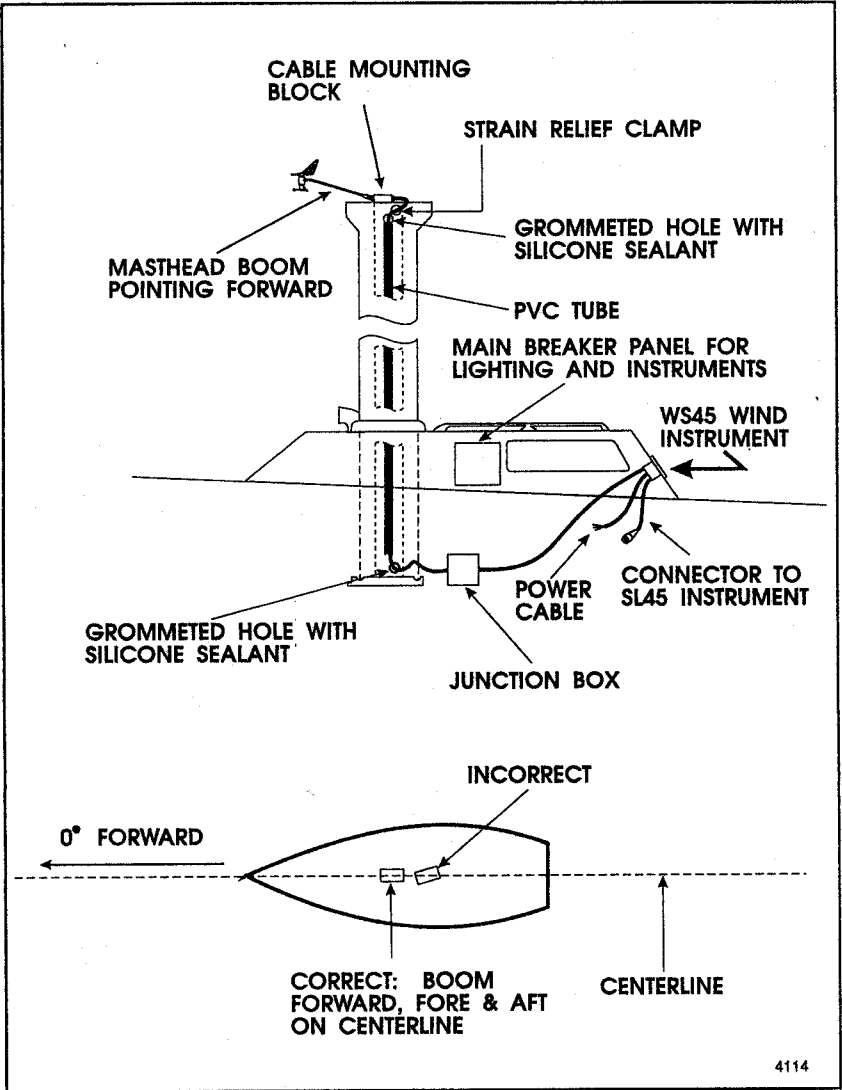

Figure 8. Masthead Installation
Proper planning for the location and installation of the WS45 Wind Instrument and its accompanying hardware provide maximum instrument accuracy. Refer to Figure 8 for additional clarity while performing the installation procedures.
2. To accommodate the Masthead Cable, drill two 5/16" to 3/8" holes in the mast, one near the top and one near the base. See Figure 8. These holes will accommodate grommets with 1/4" inner diameters. Insert a grommet in each hole to prevent cable chafe.
3. Mount a strap or cable strain-relief clamp to the mast immediately above the grommets cable entrance hole near the masthead. See Figure 8. The clamp is placed around the cable and secured to prevent strain on the cable connections at the Masthead Cable Mounting Block.